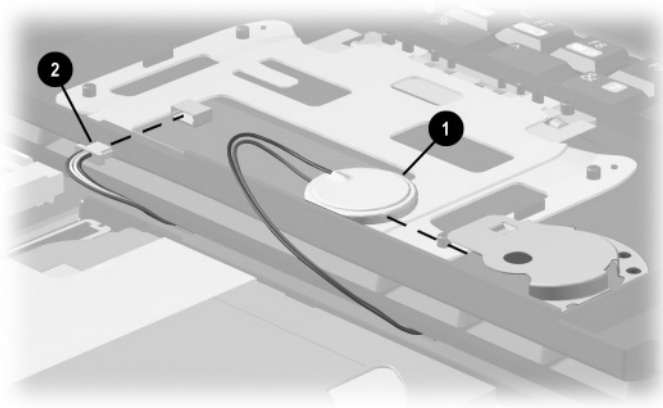

Figure 5-9. Removing the RTC Battery and Disconnecting the TouchPad Cable
10. Remove the RTC battery from the retaining clip **1** (Figure 5-9).